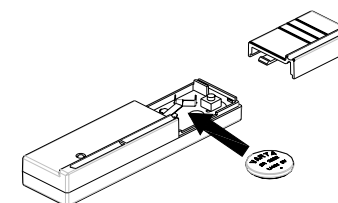

FIGURE 9b
2. Fit the 3V Lithium battery supplied, with the positive (+) facing upwardly. (FIGURE 9b)